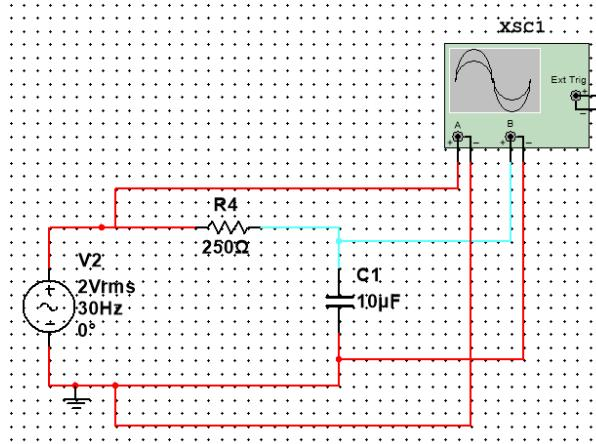

Figure 5.2: Lab #5 Basic AC RC Circuit
- B. Simulate the circuit seen in Figure 5.2. Use the same function generator settings as 5.2A. Record three to four cycles of both the input and output. Using the cursors on the oscilloscope, measuring the time shift between the maxima of the two waves, Δt , and use it to calculate the phase shift $\Delta\phi$ using the following equation:
- C. Using the cursors in the oscilloscope, measure the period T for both the input and output waveforms of Figure 5.2. Use this period to calculate the frequency, $f = \frac{1}{T}$. Are the frequencies the same for the input and output waveforms?